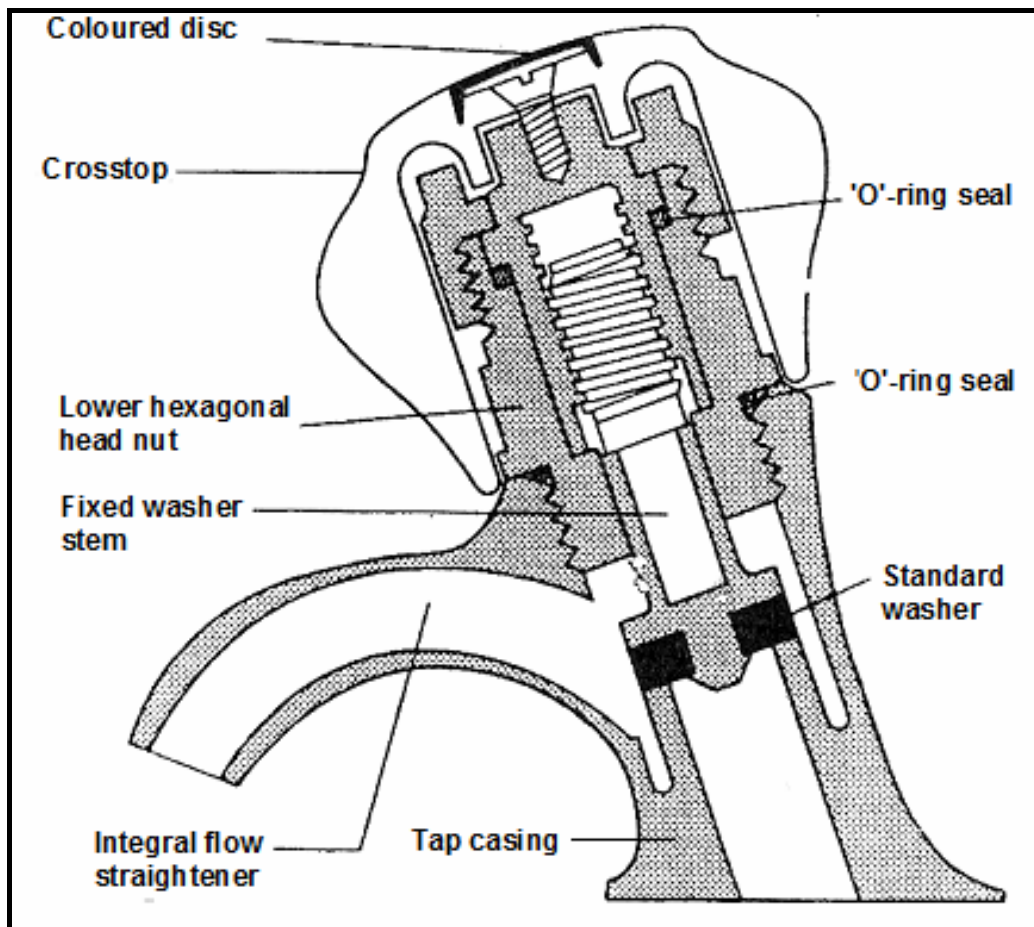

FIGURE 3.2
3.4 FIGURE 3.2 shows a cross-sectional view of a tap for use on a wash basin. The tap casing is made of a non-ferrous alloy.